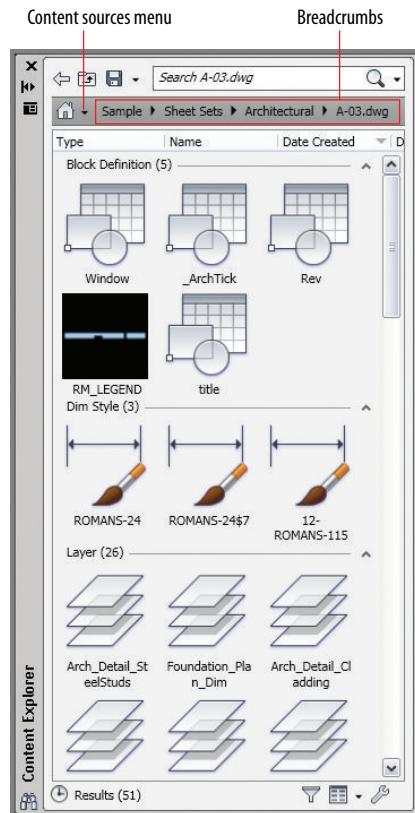

FIGURE 9.16 Content Explorer showing content within a specific drawing
4. Double-click the Sample folder that appears in the Content Explorer. Then double-click Sheet Sets, Architectural, and A-03.dwg. The Content Explorer shows all the block references, block definitions, layers, layouts, and styles present in the drawing (see Figure 9.16).